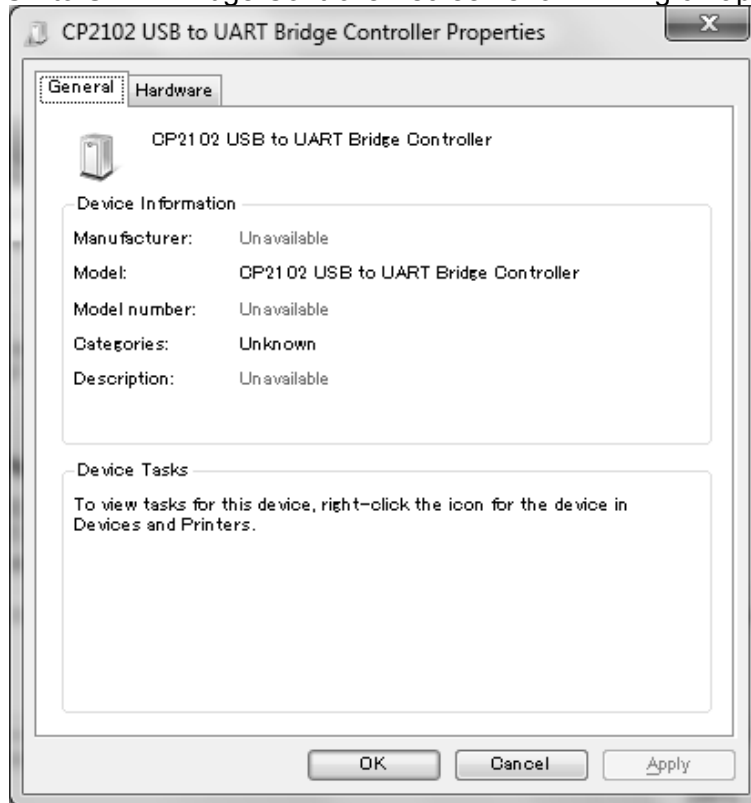

Fig. 67 Controller Properties
(17) The "CP2102 USB to UART Bridge Controller" screen shown in Fig.67 appears.